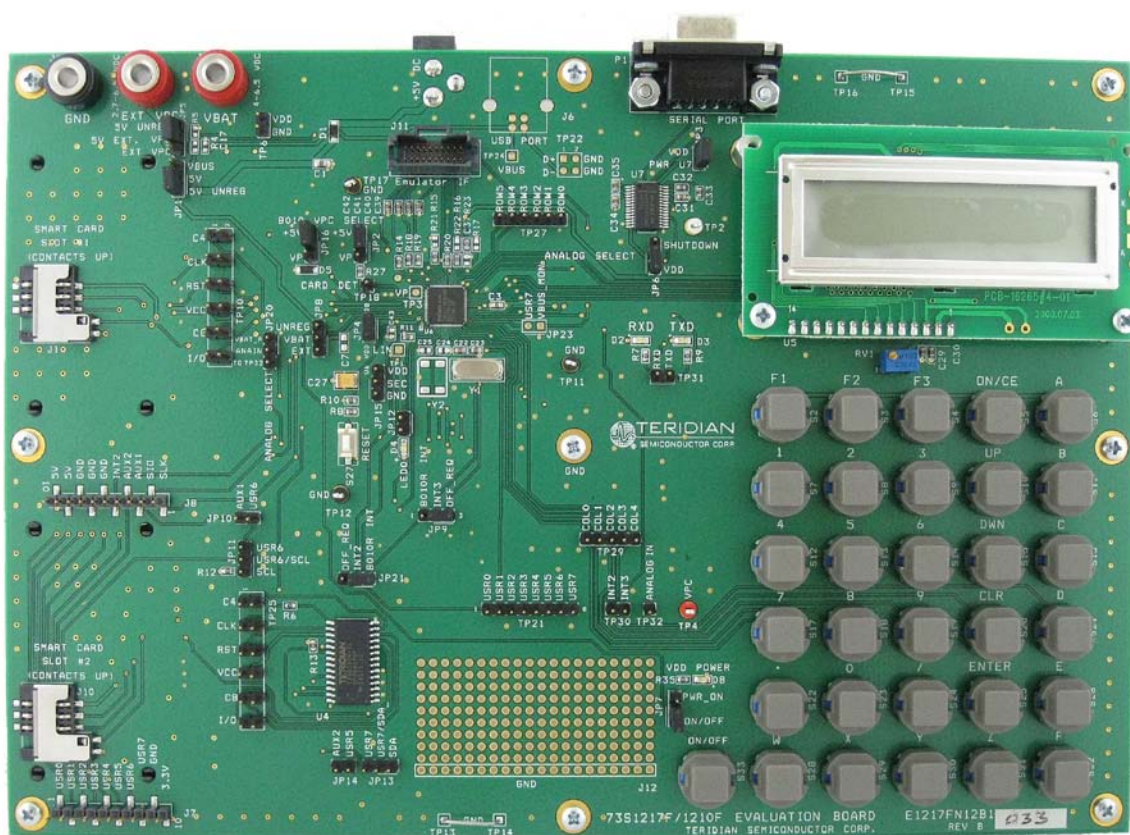

Figure 1: 1210F Evaluation Board
- 73S1210F Evaluation Board: 4-layer, rectangular PCB as shown in Figure 1 (identification number E1217FN12B1 Rev B), containing the 73S1210F with the preloaded Pseudo-CCID (PCCID) program.
The 73S1210F Evaluation Board (see Figure 1) includes the following: